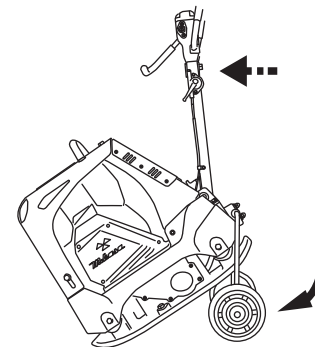

Fig.30
- 2 Tilt the handle to the front until the rear end of vibrating plate leaves the ground. Then, move the cart to the underside of vibrating plate until the frame of cart touches the vibrating plate. (Fig. 30)